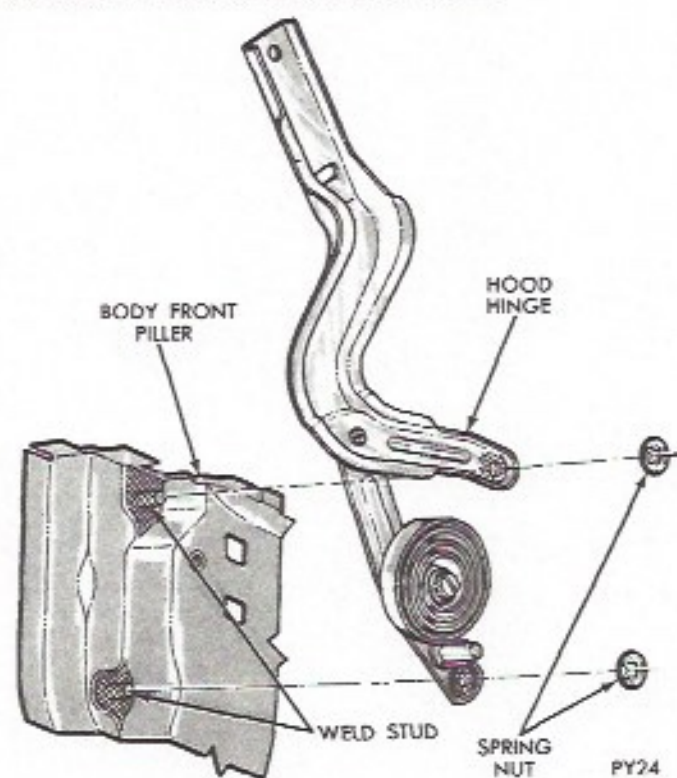

Fig. 2—Hood Adjustment
- (1) Place a protective covering over cowl and fender area.
- (2) Mark outline of hinges on hood to aid in installation.
- (3) With an assistant, remove hinge-to-hood bolts (Fig. 2) and remove hood assembly. Use care not to permit hood to slide rearward and damage painted surfaces of the cowl and fender areas.